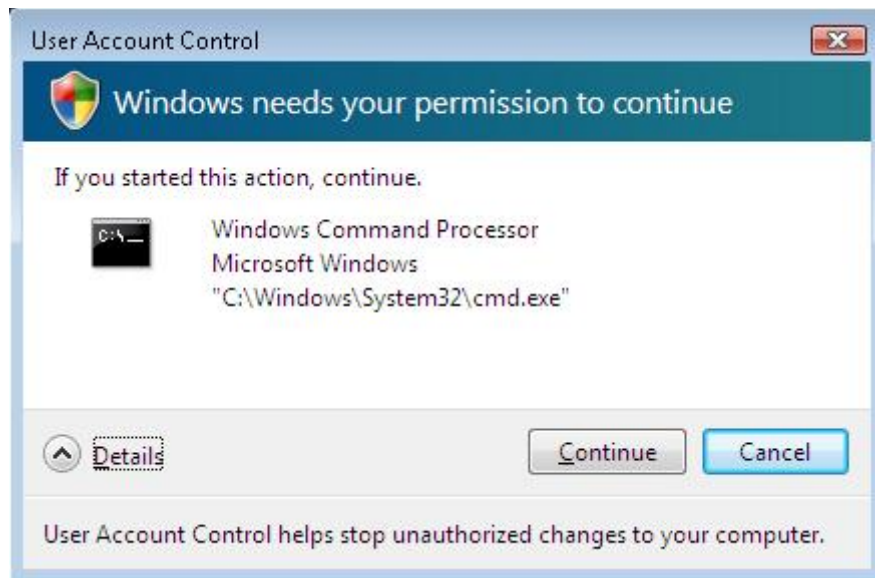

Figure 5.3: Running the Windows Command Prompt in Windows Vista
*If you are using Windows Vista then you must run **vrtaServer -install** from a Windows Command Prompt that has administrator rights. To obtain a Windows Command Prompt with administrator rights, right-click on the Command Prompt icon and select "Run as administrator". When the dialogue shown in Figure 5.3 appears click **Continue** and then run **vrtaServer -install** at the prompt.*